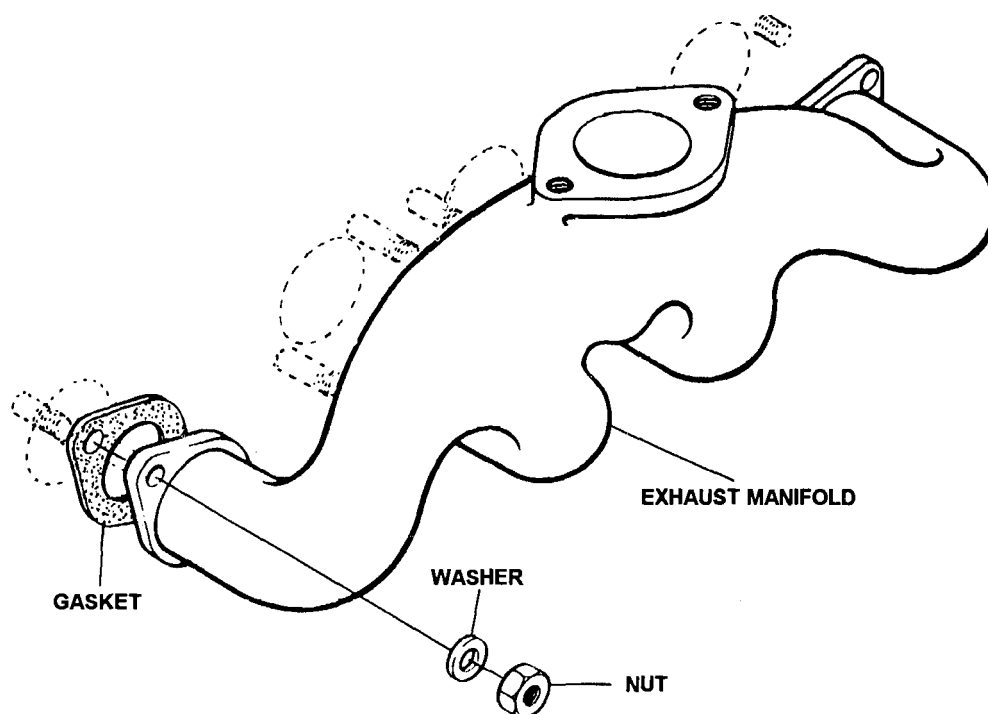

Figure 4-36. Exhaust Manifold, Removal and Installation
- (1) Refer to paragraph 4-53 and remove the muffler.
- (2) Remove nuts and washers (Figure 4-36) to remove exhaust manifold and gaskets. Discard gaskets.